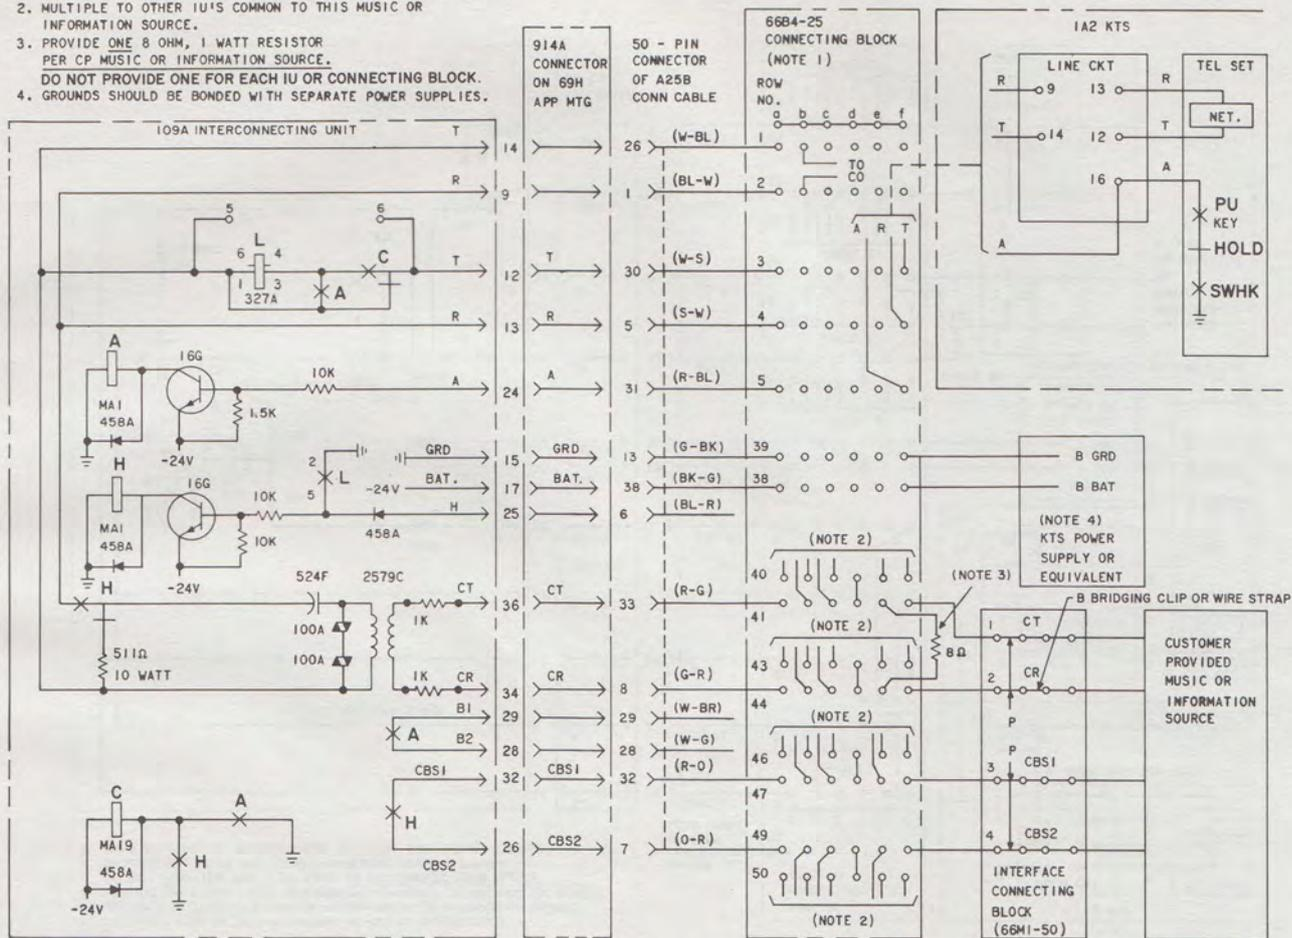

Fig. 5—Connections for Voice Connecting Arrangement LVH with 1A2 KTS
**1A2 Key Telephone System (109A IU, Fig. 5)****4.03 Incoming Call:**
**109A Interconnecting Unit (Fig. 5)**
REFER TO FIG. 5 FOR 1A2 KTS